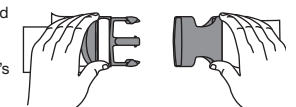

Fig. 2
1. Put the shoulder strap on either using the clip or over head and onto shoulder. (Fig. 2).